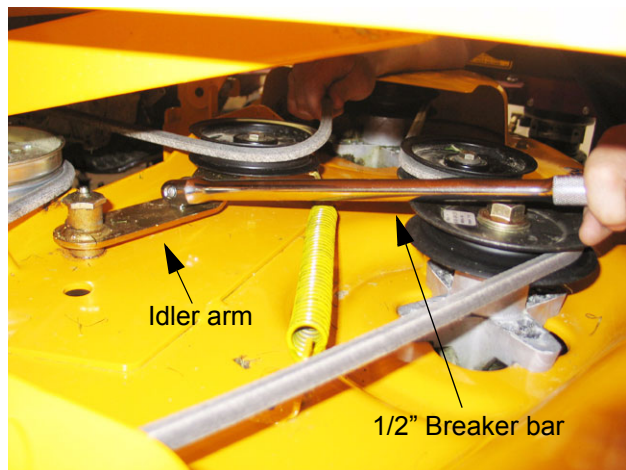

Figure 2.1
- 2.1. Insert a 1/2" breaker bar into the square hole in the tensioner arm located on top of the deck. See Figure 2.1.